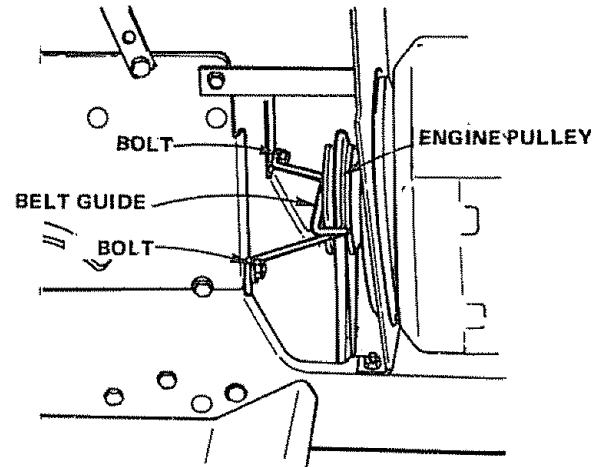

FIGURE 55
- f. Loosen L.H. Engine Pulley Belt Guide Bolt and swivel Belt Guide onto R.H. Bolt. Tighten L.H. and R.H. Bolts securely (Fig. 55).